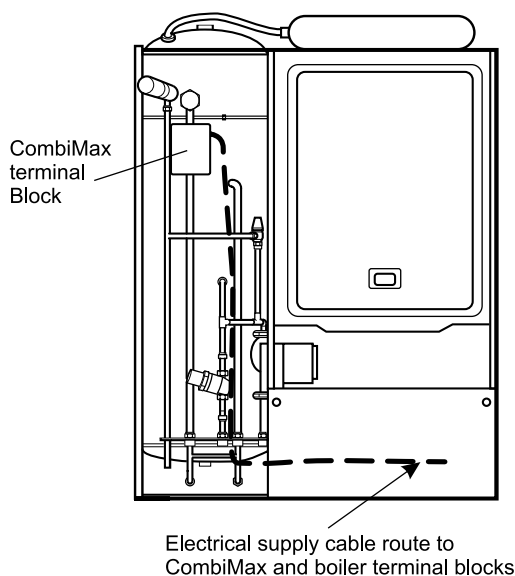

Fig. 10
1. Remove the screws securing the CombiMax terminal block cover. Pass the electrical mains supply cable through the cable clamp on the boiler and route the cable to the CombiMax terminal block as shown in Fig. 10. Connect the cable as follows:- Brown to L, Blue to N and Green/Yellow to \perp . Ensure correct polarity and that the cable is secured using the clamping bush supplied.